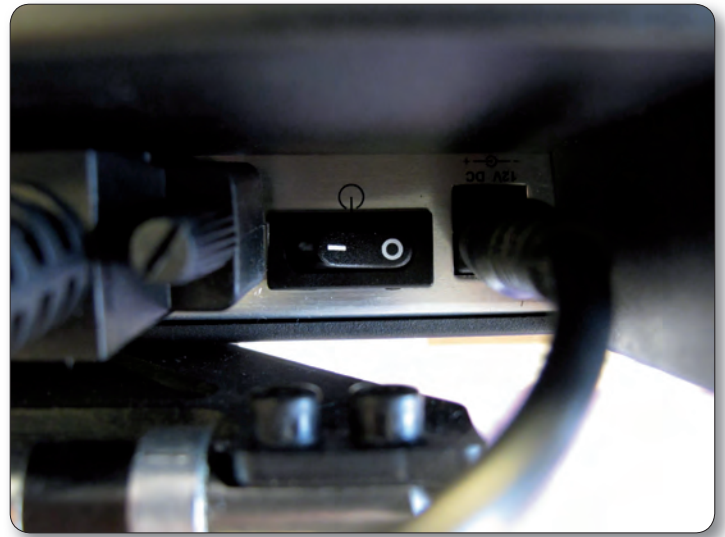

Figure 25
1. Make sure the power switch is in the “On” position on the quilting machine prior to plugging the power cord in to ensure that the quilting machine is booted up prior to the HQ Pro-Stitcher. The HQ Pro-Stitcher will begin booting up and will connect with the quilting machine as soon as the program loads as long as the quilting machine is already booted up. There is a power switch for the HQ Pro-Stitcher near the power cable connector on the computer unit which may be pressed if the computer unit does not immediately begin booting up (Figure 25).